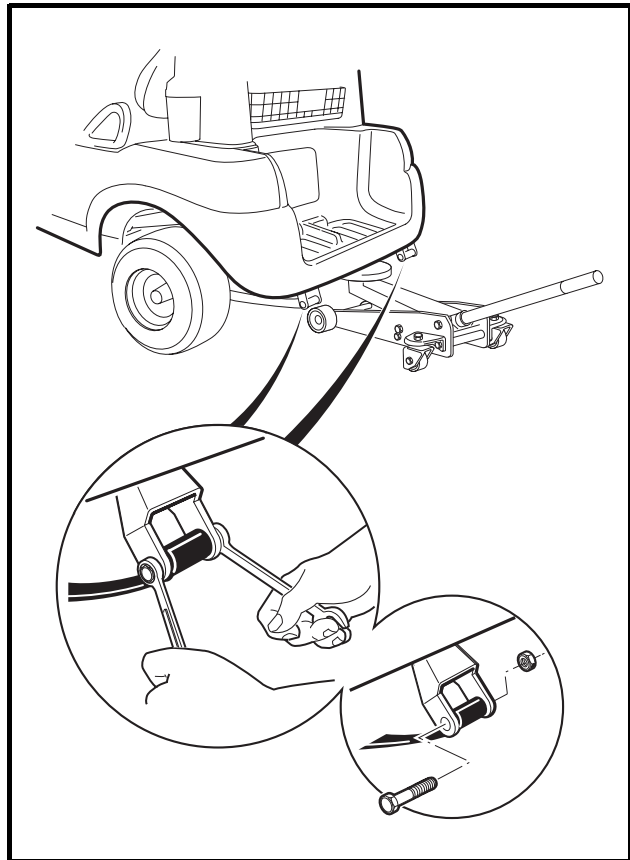

Figure 16-43 Leaf Springs and Shackles
16. Using the floor jack, adjust vehicle height to position the leaf springs for mounting in the shackles. Install the mounting bolts and lock nuts (**Figure 16-43, Page 16-18**).